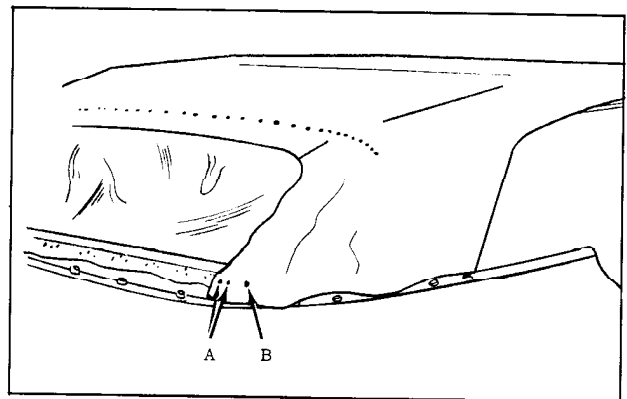

Fig. 17-143 Tack Top Material
35. Using previously marked lines (ends of trim stick) as locating reference, tack top material to rear and rear quarter trim sticks. "A" in Fig. 17-143 shows top material installed to rear trim stick at base of each weatherflap.